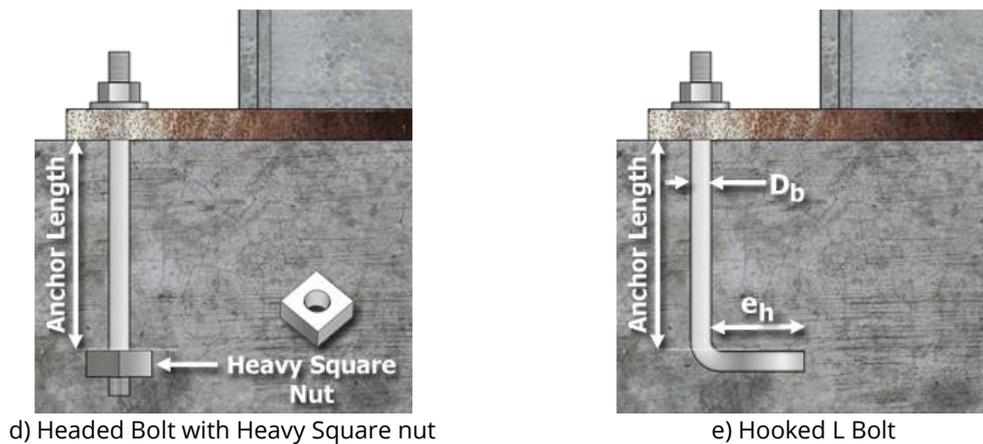

Figure 3-28, Anchor Bolts Types
eh/Db Ratio: If the Hooked Anchors option is chosen, the e_h/D_b ratio should be determined. The 'eh' parameter is shown in Figure 3-28(e) for L-shaped anchors. This parameter is used to calculate pullout strength of hooked anchor and in ACI318 code one restriction is mentioned for it: $3D_b < e_h < 4.5D_b$. The reason for determining such minimum and maximum value for e_h is that the boundaries of experimental specimens tested by Shaikh and Kuhn 1996 have such values and consequently, the code relations are derived from the result of these tests. For more information refer to R17.4.3.5 ACI318-14 Commentary. It should be mentioned that one can choose a value greater than the maximum, but for calculating the pullout strength of anchors, the maximum allowable value for e_h (i.e. $4.5D_b$) will be used.
- Anchor Length: In the connection model, the buried lengths of all anchor rods are considered as equal. These lengths for different anchor bolt types are shown in Figure 3-28. If user chooses the Program Determined option for anchor length, the software will determine the lengths of rod anchors. In this mode, software considers the lengths of anchor rods 20 times as equal as the maximum diameter of rods and this length is shown in the Default Length field. If user chooses the Specified By User option then the anchors length must be specified by user.